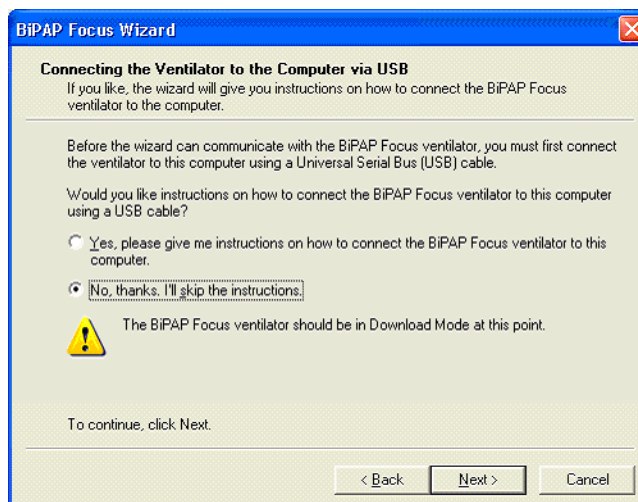

Figure 6-11: Connecting the Ventilator to the Service PC
2. Connect a universal serial bus (USB) cable between the service PC and ventilator. If necessary choose the option to display more detailed connection instructions (Figure 6-11). Click **Next**.